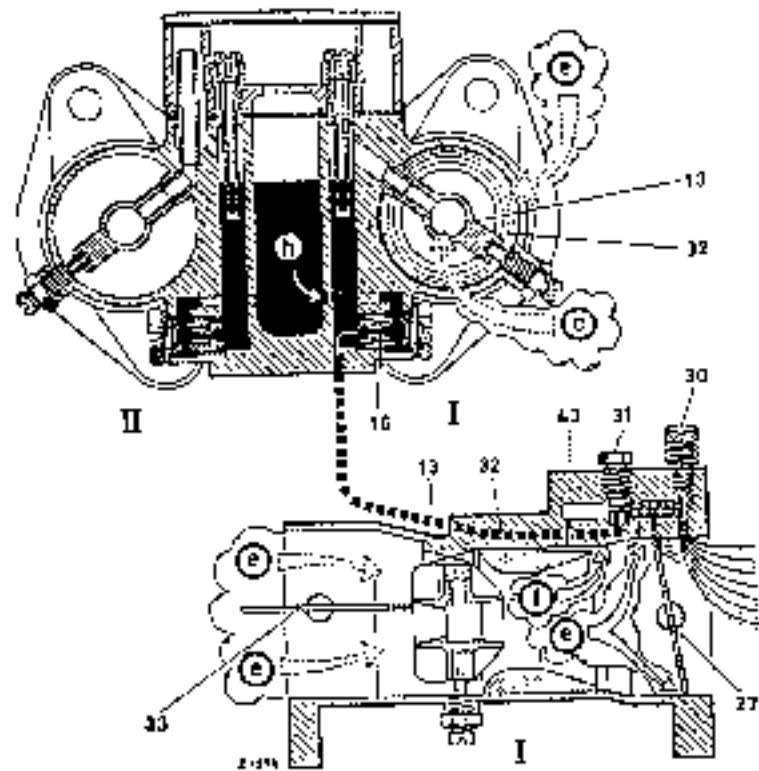

Fig. 07-0/41
The section of the idle mixture bore can be varied by the idle mixture adjustment screw (30) (Fig. 07-0/47). The final idle mixture can be leaned out by tightening the idle mixture adjustment screw and enriched by slackening it. The idle speed is adjusted with the idle adjustment screw (72) on the throttle valve lever (38) (see Job No. 01-3, Section X, and Fig. 07-0/36).
When the throttle valve is opened slightly, idle mixture emerges both through the idle mixture bore (47) and the rear by-pass bore (46). The two by-pass bores now ensure a smooth change-over from the idle to the main carburetion system (see Figs. 07-0/39 and 07-0/41).